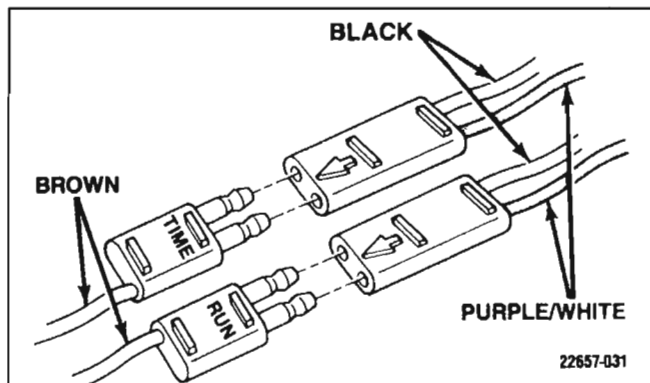

Figure 4-5. Timing Plug Positions
7. Switch the timing plug to the "RUN" position (see Figure 4-5).
2. Change the timing plug to the "TIME" position (see Figure 4-5).